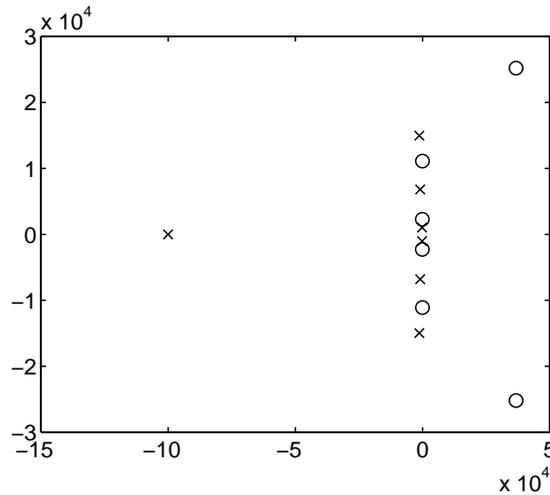
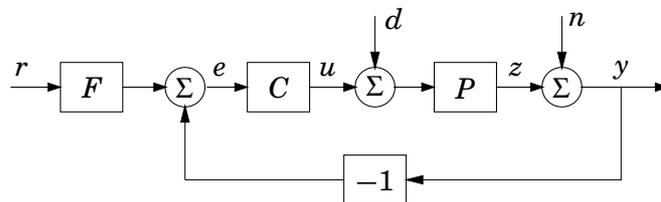

Figure 6.2 Pole-zero configuration of a resonant mechanical system.
Figure 6.3 Two degree of freedom controller structure.
- 6.2** A resonant mechanical system has the pole-zero configuration shown in Figure 6.2. The controller structure is given by Figure 6.3.
6.3 Consider the setup in Figure 6.3 with $P(s) = (3 - s)/(s + 1)^2$